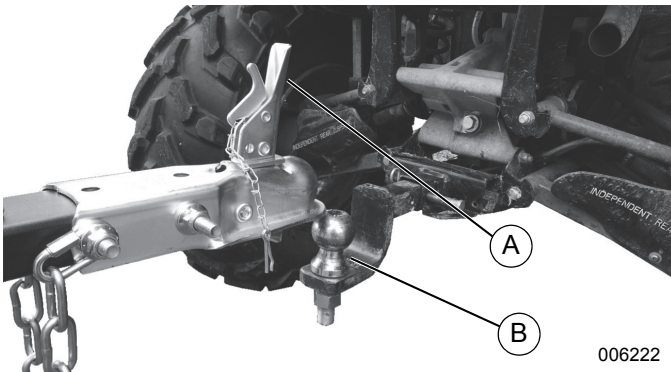

Figure 2-15. Hitch Attached to Tow Vehicle
2. See Figure 2-15. Remove locking pin and pull latch assembly up into the open position (A).
3. Position receiver onto tow vehicle tow ball (B).